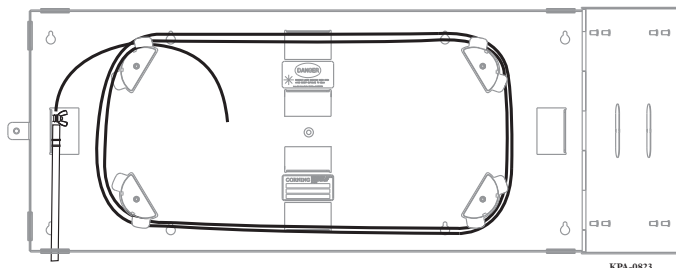

Figure 7 — Store Slack Cable
Route the cable around the radius guides and store until later use (Figure 7). Carefully close the door of the housing and secure it using the can wrench.
- Step 1:** Install mounting screws in the locations in front of the SSH shown in Figure 7 leaving a 1/8-inch gap between the screw head and the SSH.